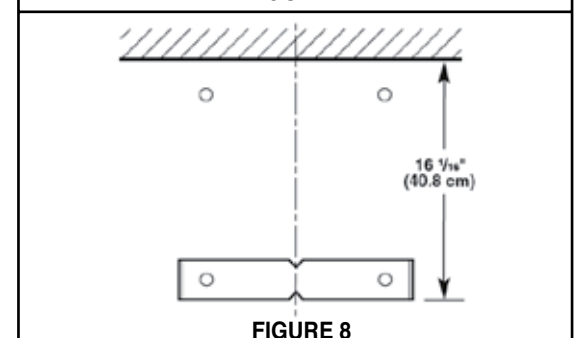

FIGURE 8
5. Place the other chimney bracket on the wall so that its lower edge is 16 1/16" from the ceiling or soffit and level. Align the center notches of the bracket and the centerline. Mark the centers of the bracket holes. Attach to the wall with 2 screws (FIGURE 8)